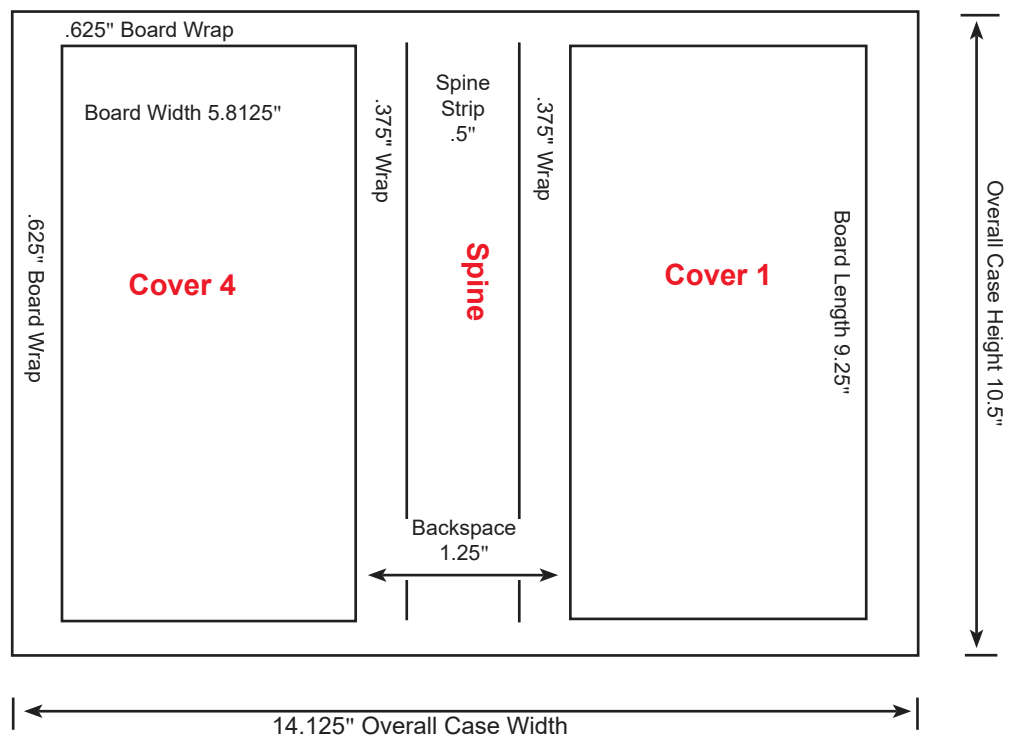

Figure 7
- File spreads must be setup in Landscape. (See Figure 7)
- Type, logos and rule lines may butt the edge of the spine strip width, rules lines extended past the spine strip width will not stamp in the hinge of the case. Cover 1 and 4 rule lines must stop 1/16" from the board edge on the spine side. Spine, Cover 1 and 4 the type, logos and rules should be at least 1/8" from Top and Bottom of spine strip or edge of the boards. (See Figure 7)